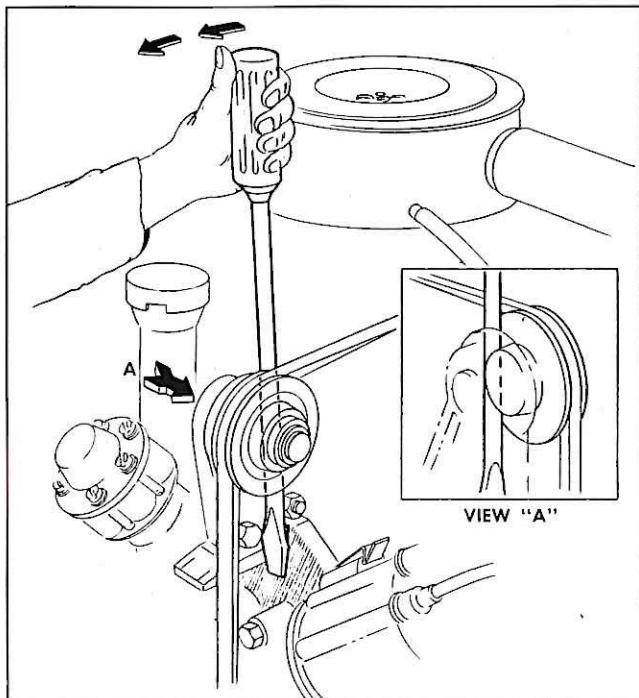

Fig. 1—Screwdriver Position for Adjusting Blower Belt Tension
2. Insert a 16" screwdriver between the idler pulley and bracket, positioning the end of the screwdriver against the raised boss on the engine (fig. 1).